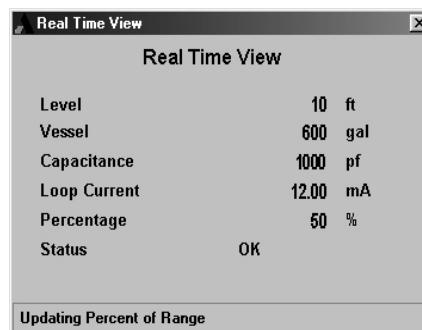

Figure 3-16
- D. Select **Real Time View** on the PC software Menu Screen (F4 on your keyboard) *See Fig. 3-16*. The display should show the Capacitance as the value of the NPO Capacitor (within the capacitors tolerance), and the **LEVEL** should display close to the mid-range of the Lower and Upper Level from the **Level Calibration** field. The **Loop Current** and the **Percentage** will also reflect the values that are generated by the NPO Capacitor. Add to the scratch pad of the Menu Screen the value of the NPO capacitor that you used. If desired, this information can be printed out for file or record purposes *See Fig. 3-18*. Mark or Tag this capacitor* to correspond to this specific transmitter. Put the capacitor in a safe location for use in subsequent testing and validation.